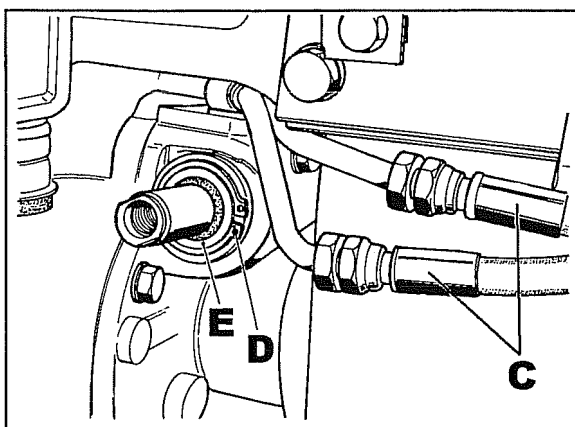

Fig. 70
2. Place a container underneath to hold the oil and then disconnect tubes **C** Fig. 70.
3. Remove the snap ring **D** Fig. 70.